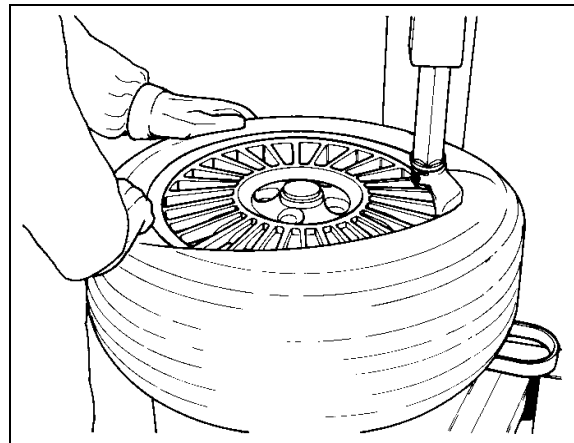

Fig. 16
**G.** Rotate the turntable clockwise and at the same time push down on the tire sidewall to move the bead into the drop center of the rim (Fig. 16).